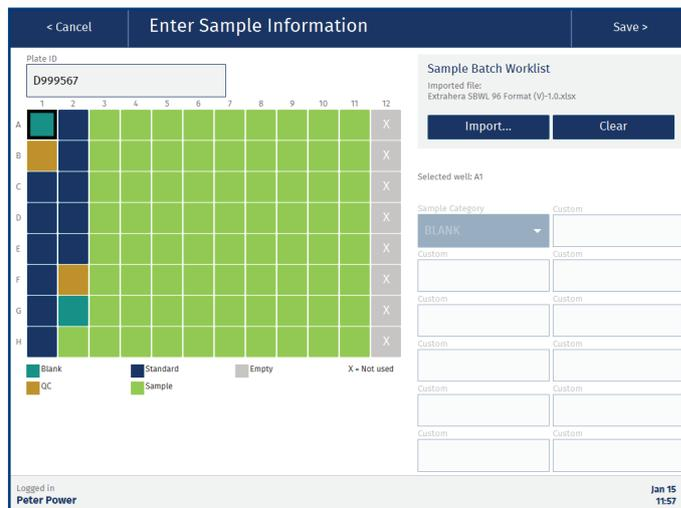

Figure 74. Imported Sample Batch Worklist. Wells/tubes that will not be processed are marked with an X.
3. In the **Enter Sample Information** view, press **Import...** (see Figure 74).